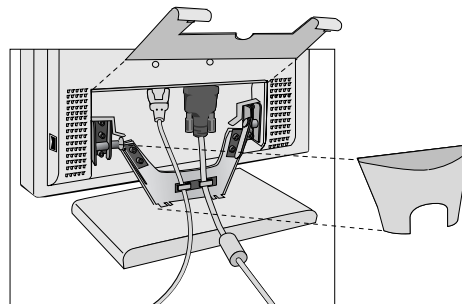

Figure R.1
1. Remove the connector cover and the cable cover (Figure R.1).